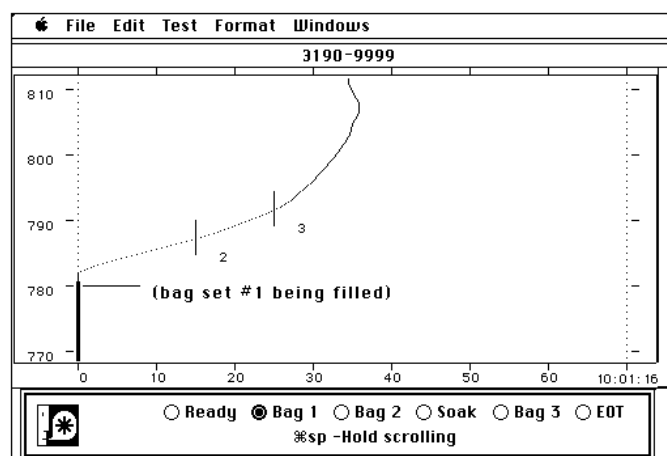

Figure 20
- 349 At the 780-second point of the HFET, 2 seconds before the beginning of the first acceleration, the VDA will automatically start sampling. See Figure 20. Operate the test vehicle for one EPA Highway Fuel Economy Driving Schedule (HFEDS).